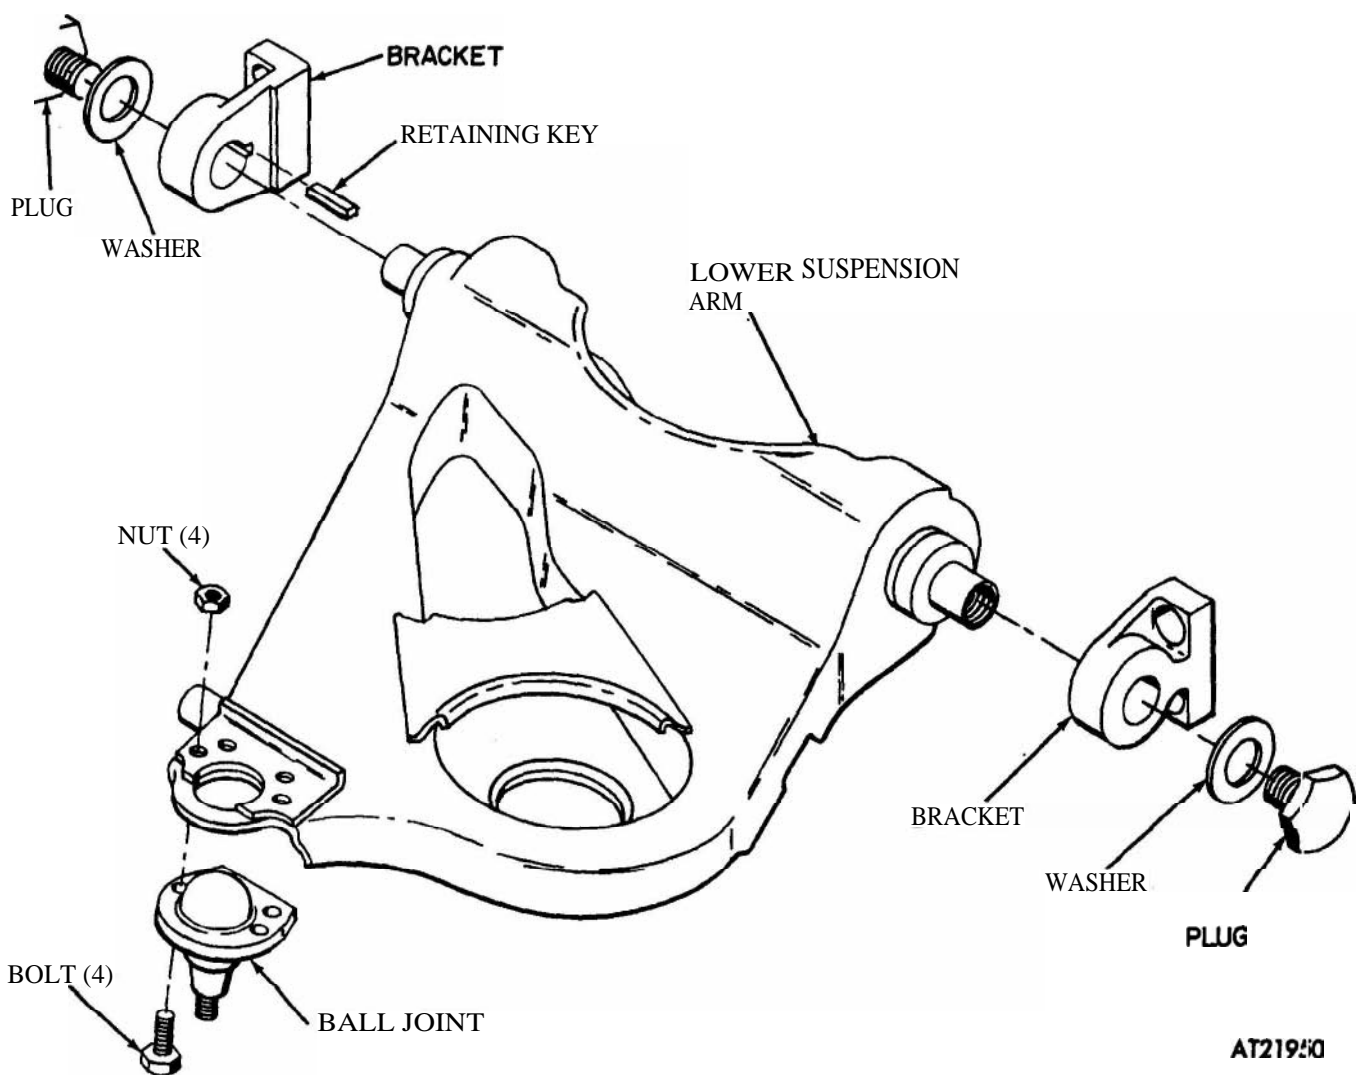

Figure 2-298. Front and rear lower suspension arm, disassembly and assembly.
and brackets from lower suspension arm (fig 2-298).
- (1) Position ball joint assembly on lower arm by aligning four mounting bolts with holes on lower arm. Secure with four nuts (fig 2-298).
- (2) Position keyea bracket on lower arm shaft and insert key. Position opposite bracket on lower arm shaft. Install two washers and plugs. Tighten plugs finger tight. Clamp arm assembly to surface plate at flat surface immediately below plug (ball joint stud down). Position brackets so that edge rests on surface plate. Angle should measure 79 degrees plus or minus 3 degrees. Reposition bracket as necessary. Torque plugs to 92-110 lbs-ft.